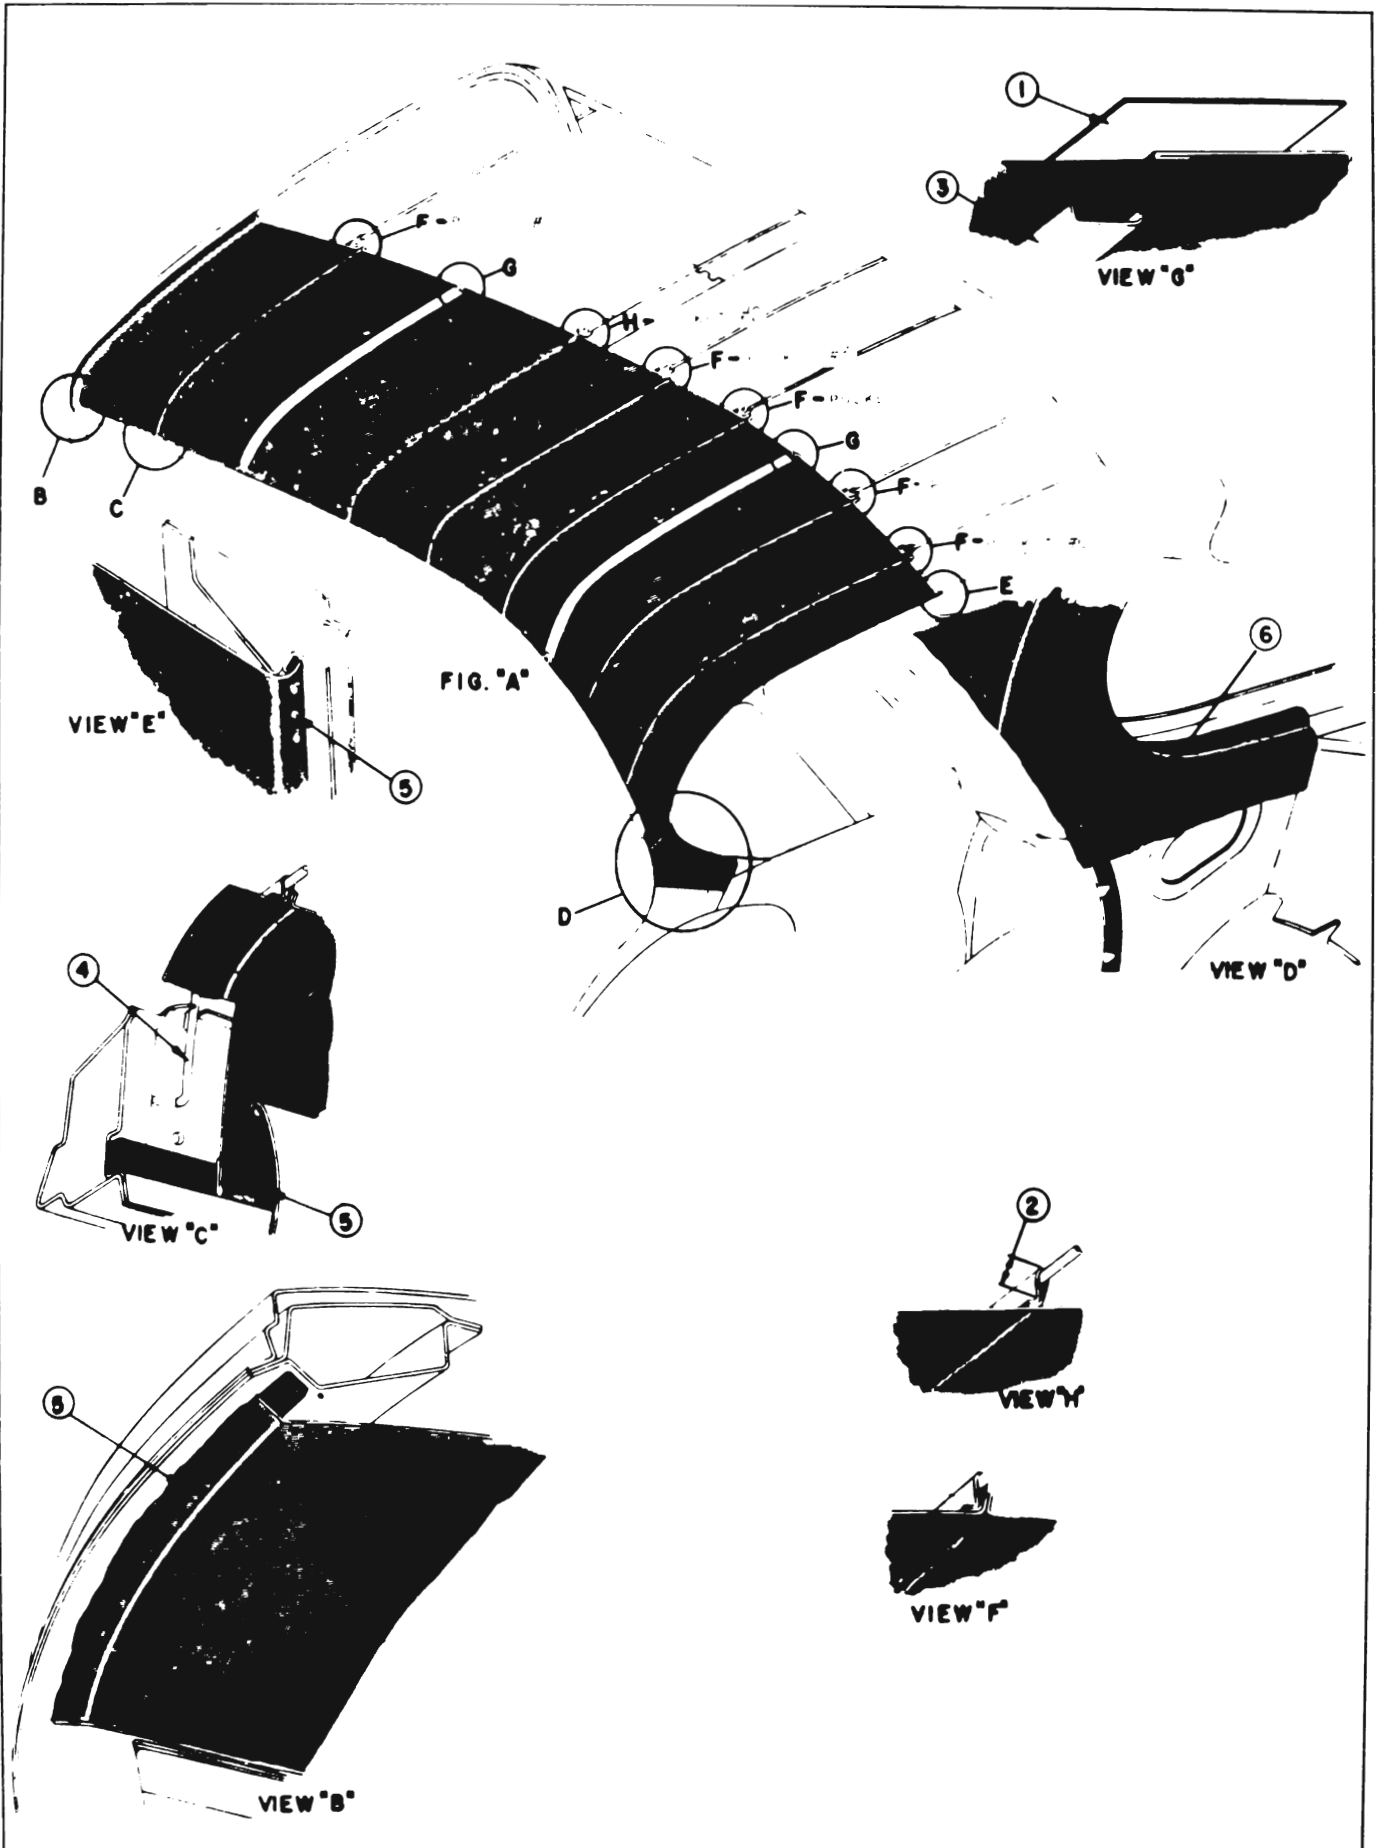

Figure 13-77—Headlining Attachment (With Roof Bows)
2. Check to see that barrier strips as indicated at "1" in View "G" are securely cemented to deadener over areas where exposed bows will be located; and, if necessary, recement barrier strips using an approved trim cement. See figure 13-77.
ward and insert into holes in side roof rail; then swing wire to upright position and into notch in side roof rail as shown at "4" in View "C". See figure 13-77.
4. Center and align headlining in relation to windshield, back window, side roof rails and dome lamp opening. Then cement and stay tack headlining material to tacking strips at back window, shown at "5" in View "E," and windshield, shown at "5" in View "B". Stay tack headlining along side roof rails as shown at "5" in View "C". See figure 13-77.
7. Cement headlining at rear quarter as shown at "6" in View "D." See figure 13-77.